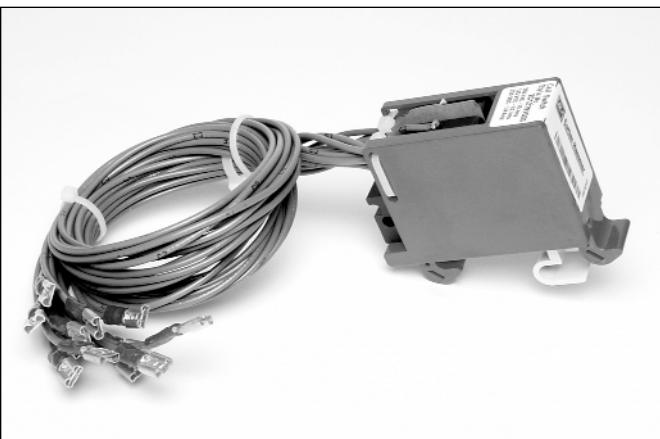

Figure 3-62 Cell Switch (Drawout Position Indicator)
**Cassette Cell Switch** - The cassette cell switch is a compartment position switch for drawout circuit breakers. It is available in a 2a2b or 4a4b contact configuration, and mounts on the right side of the cassette (Figure 3-62 and 3-63). Refer to the Ratings Table 3.6 for cell switch contact information. The cell switch changes status between the TEST and CONNECT positions.